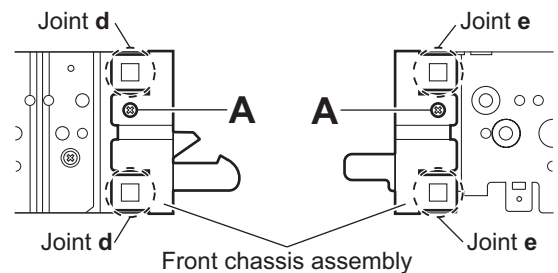

Fig.3
3.1.3 Removing the front chassis assembly (See Fig.3 and 4)
- (1) Remove the two screws **A** on the both sides of the main body. (See fig.3.)
- (3) Release the two joints **d** and two joints **e** on the both sides of the main body, then remove the front chassis assembly toward the front. (See fig.3.)
- (1) Turn the mode gear to set to RVS play or subsequent mode.
- (2) Remove the cassette guide from the main chassis while releasing each two joint tabs **a** in the direction of the arrow.
3.2.2 Removing the load arm (See Fig.3)